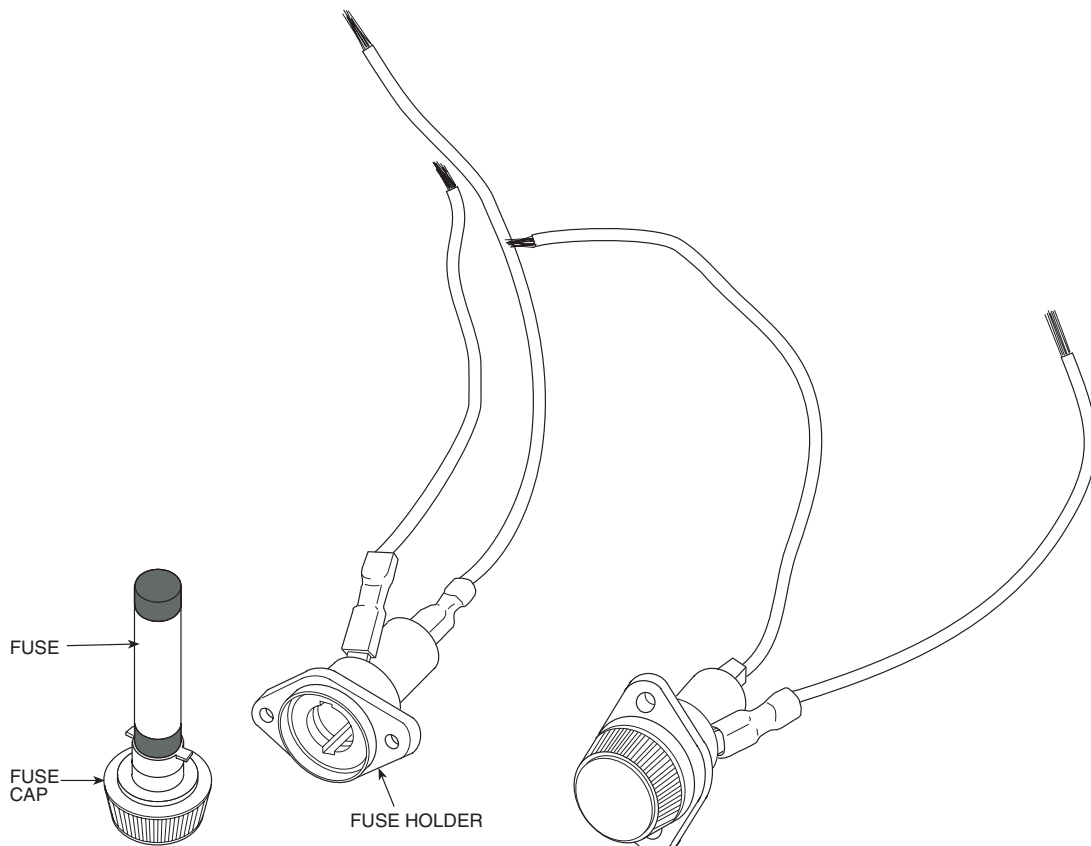

Fig. 1 — Fuse Kit Accessory Contents
These instructions cover the installation of the Subbase Fuse Kit Accessory for packaged terminal air conditioner (PTAC) or heat pump units. The fuse kit consists of fuse holders, fuses, and attachment screws. See Fig. 1.
The fuse kit consists of (2) two fuse holders with fuses (type Buss 14). See Fig. 1. The kit is available in 208/230 volt and 265 volt with ratings of 15, 20 and 30 amp and should be selected in accordance with the Maximum Overcurrent Protection listing on the unit nameplate. The fuse kit provides in-line